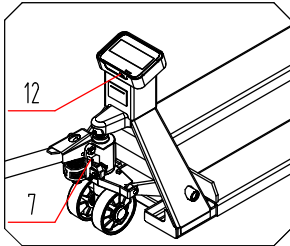

Figure 3
2.1.6 As shown in Fig 3, pull the handle to the horizontal position, pull out the pin 7, and keep the pin 7 properly for use when replacing the handle next time.